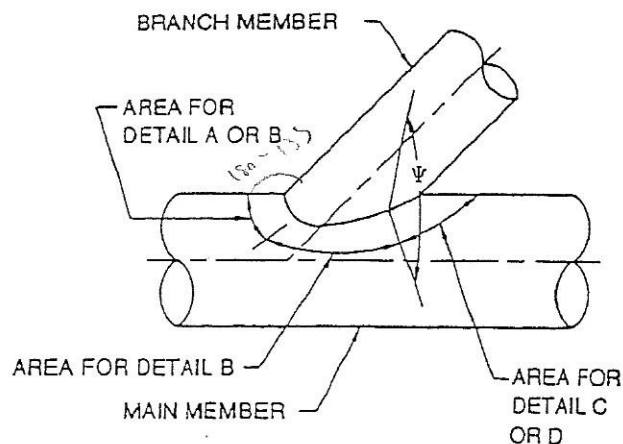

Figure 10.11 — Definitions and Detailed Selection for Complete Joint Penetration Prequalified Tubular Joints for Simple T-, Y-, or K-Connections (see 10.13.1)
10.13.1 Complete Joint Penetration Groove Welds. Details for complete joint penetration groove welds in tubular T-, Y-, and K-connections used in circular tubes are described in this section. The applicable circumferential range of Details A, B, C, and D are shown in Figure 10.11, and the ranges of local dihedral angles, Ψ , corresponding to them are specified in Table 10.6.